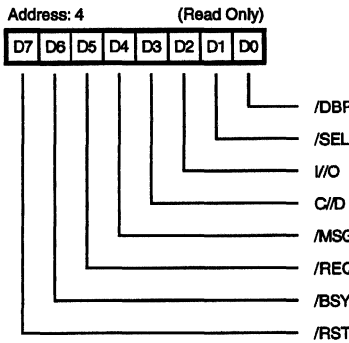

Figure 25. Current SCSI Bus Status Register
**Current SCSI Bus Status Register Address 4 (Read Only).** The Current SCSI Bus Register is a read-only register which is used to monitor seven SCSI Bus control signals, plus the Data Bus parity bit. For example, an Initiator device can use this register to determine the current bus phase and to poll /REQ for pending data transfers. This register may also be used to determine why a particular interrupt occurred. Figure 25 describes the Current SCSI Bus Status Register.